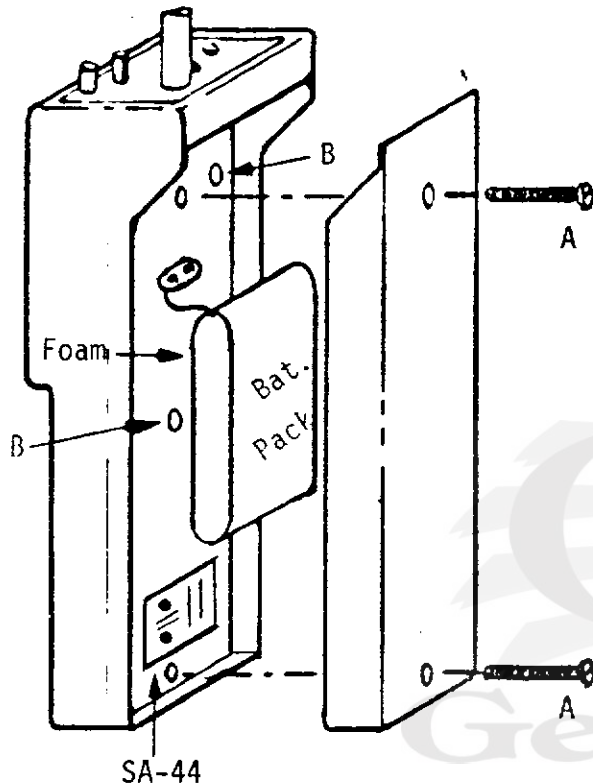

Figure 4-2. Disassembly
The transceiver covers are easily removed; refer to Figure 4-2 and proceed as follows: (DO NOT BUMP OR MOVE XMIT CRYSTAL TRIMMERS AT BOTTOM, RH-SIDE OF PC BOARD).
2. Remove two #4-40 x 1" pan-head machine screws which secure back cover to transceiver (Fig. 4-2, item "A").
4. Remove two #4-40 pan-head machine screws (Figure 4-2, item "B") which secure PC board to FRONT cover.
2. Rotate speaker so that its two solder terminals face in the general direction of the Charging Jack. Be sure speaker terminals DO NOT short against resistor leads or coils; then check routing of speaker wires to insure they will not be pinched when mounting screws "B" or "A" (Figure 4-2) are installed.
4. Turn transceiver over on its front side and be sure PC board is fully seated in FRONT cover. Now install two 4-40 machine screws (Figure 4-2, item "B").